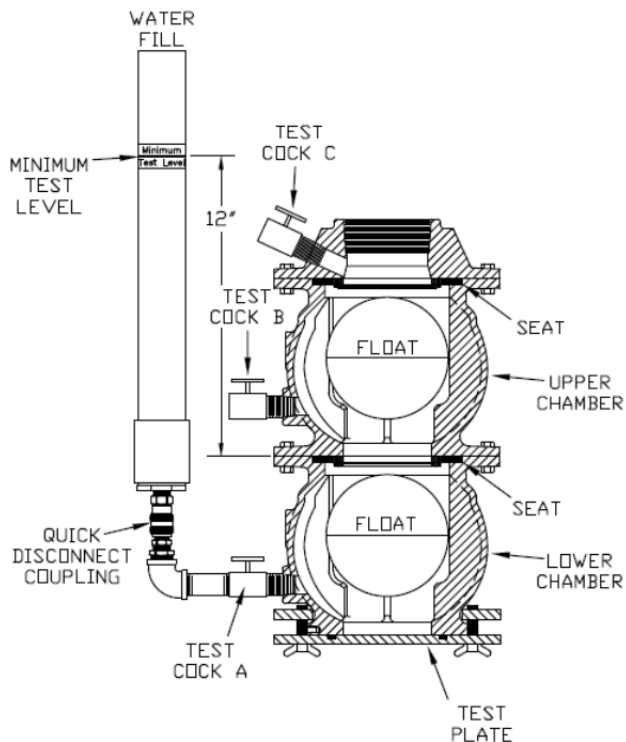

Figure 4: Field Test Piping
5. Connect the test pipe to test cock A in the lower chamber as shown in Figure 4. A quick-disconnect coupling is provided to facilitate the assembly.